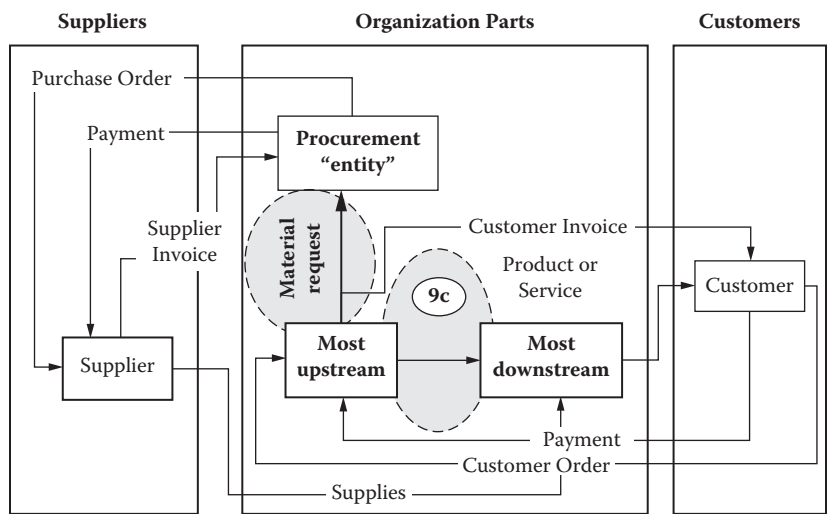

Figure 4.16 Internal supplier-customer relationships highlighted in typical Order to Delivery sequence.
- Internal connections (Figure 4.16)